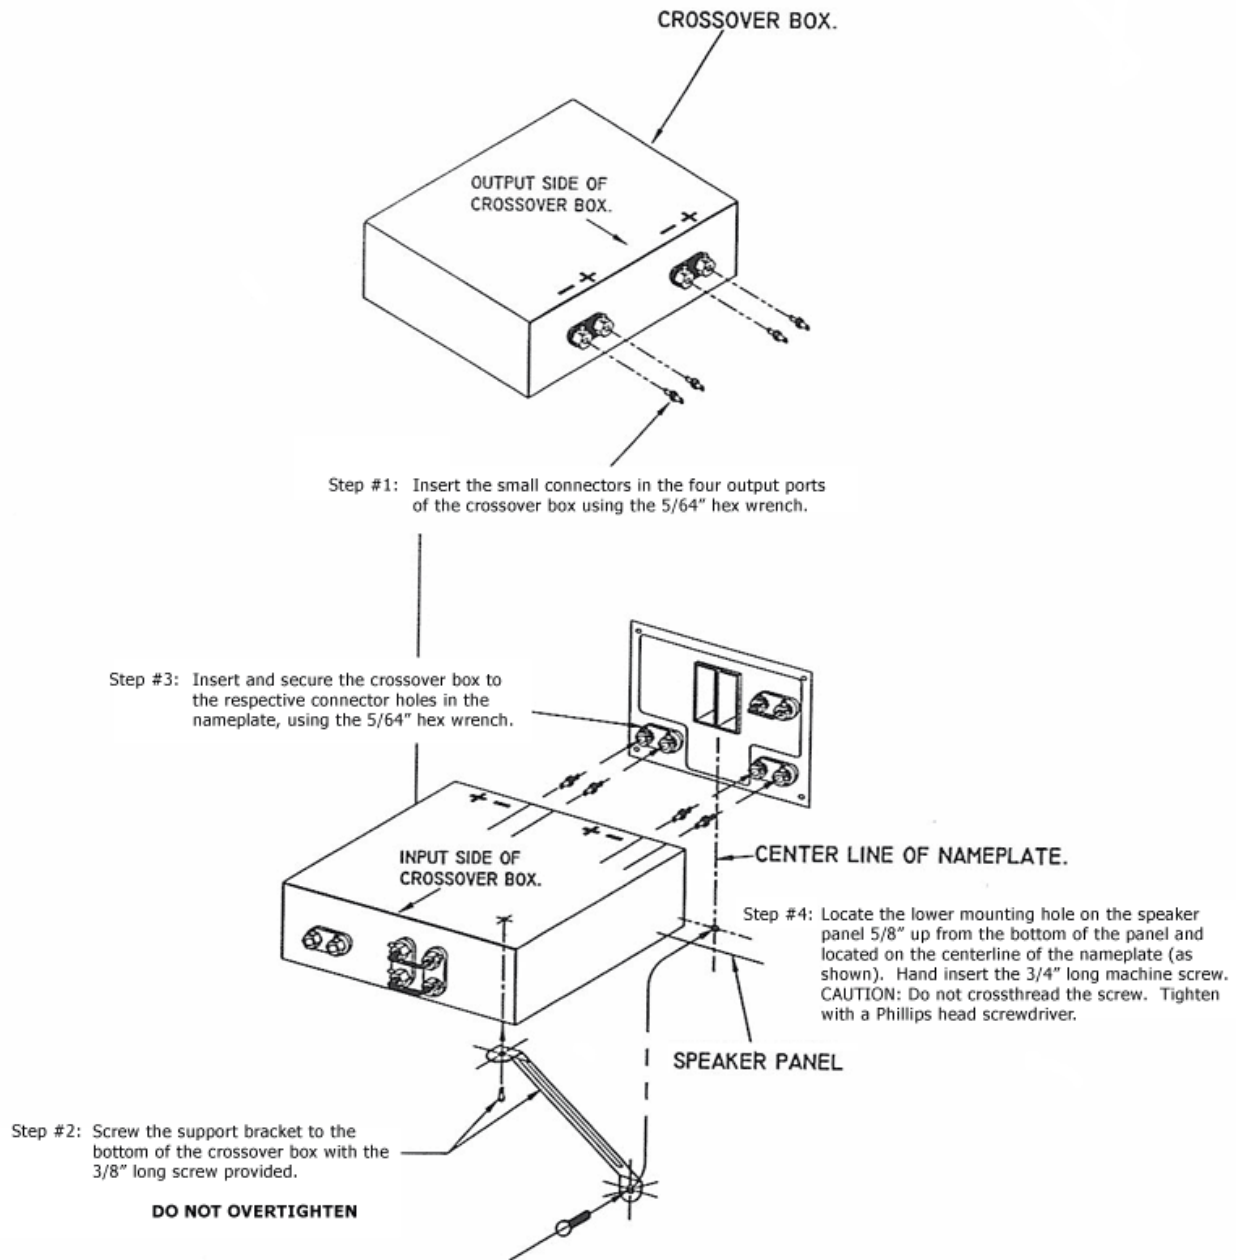
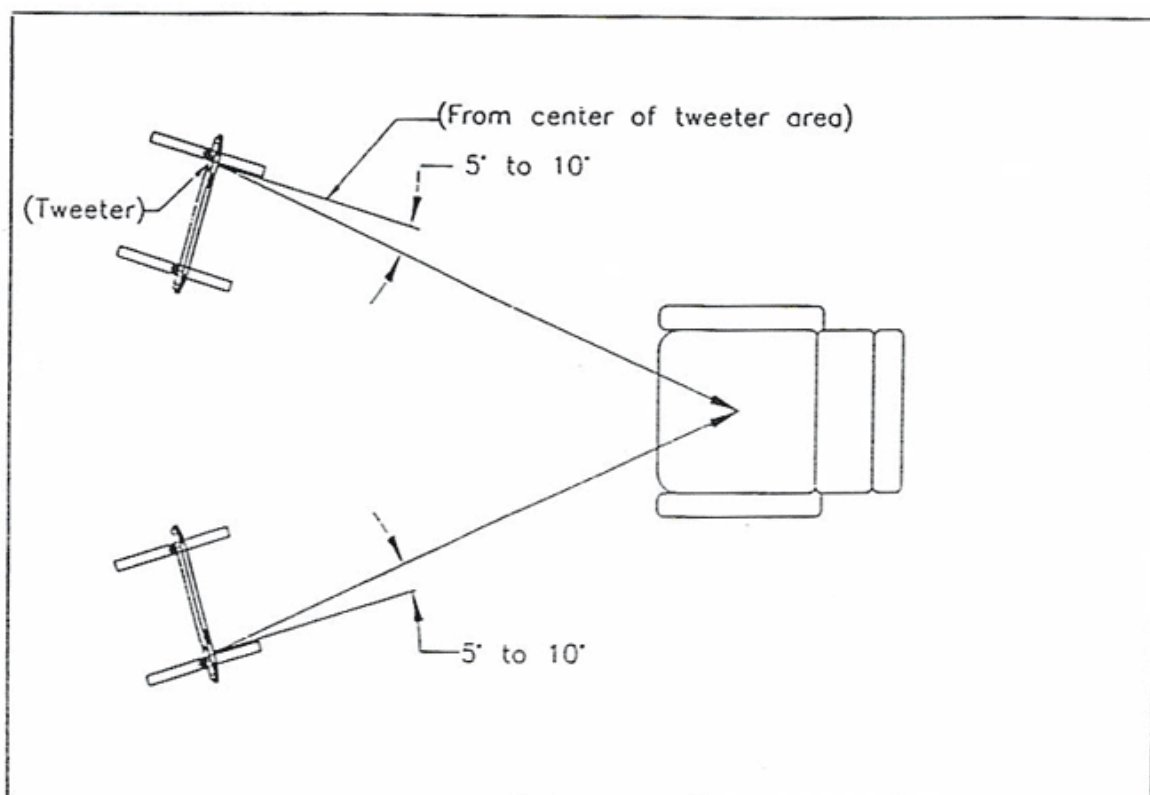
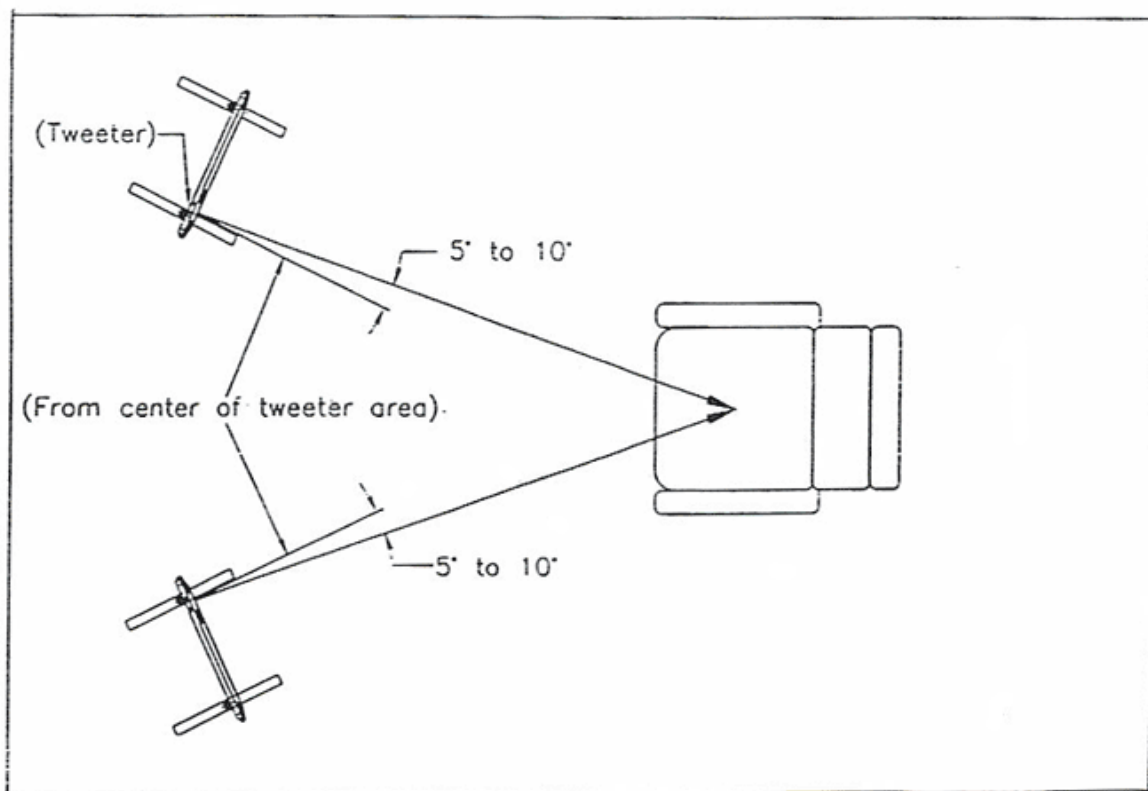

Figure 2
Figure 3
Figure 4
This can be seen to the left of fig.2, as the big peak in the mid-bass. This is a nearfield measurement, which will exaggerate the behavior of the bass panel [see the letters at the end of this reprint—Ed.]. This does not necessarily mean the speaker will “boom” in an out-of-control manner—BD commented that the MG3.6/R’s low frequencies sounded “*powerful, clean, and articulate*” down to about 35Hz in his room—but such *measured* bass behavior does appear to be characteristic of panel speakers. Yet the midrange diaphragm does not have a response peak apparent. It neatly covers the 200Hz to 1.2kHz region, with relatively steep rolloffs above and below that bandpass. From this graph, the ribbon tweeter seems both to be set a little low in level, and comes in rather high in frequency. I imagine that the narrow peaks and dips in its response, are due to local interference effects. They should therefore not have any subjective consequences.
Fig.2 Magneplan MG3.6/R, acoustic crossover on tweeter axis 36" from the floor at 50", corrected for microphone response, with the nearfield woofer and midrange responses each plotted below 300Hz.
The Magnepan's overall response, measured on the ribbon axis 36" from the floor (*ie*, halfway up the ribbon) and averaged across a 30 degrees lateral window is shown in fig.3. The microphone was at a 50" distance, which results in a significant proximity effect with such a physically large speaker. This accounts for much of the downward response tilt evidenced between 200Hz and 2kHz in this graph. The level mismatch between the midrange diaphragm and the ribbon tweeter is still evident, but I wonder how this will manifest itself at a normal listening distance. (Circumstances dictate that I use a 50" microphone distance for my acoustic measurements.) The logistics of the magazine's relocation to New York meant that I could not perform in-room measurements in BD's listening environment, but I suspect that the MG3.6/R's behavior will be better behaved in a room.
Fig.3 Magnepan MG3.6/R, anechoic response on-axis at 50", averaged across 30 degrees horizontal window and corrected for microphone response, with the complex sum of the nearfield woofer and midrange responses plotted below 300Hz.
Magnepan recommend that the speakers be used with the tweeters on the outside edges. There is more treble energy apparent laterally off-axis on the woofer side of the panel (fig.4). Vertically (fig.5), as expected from a speaker that behaves to some extent as a line source, the balance doesn't change over a significant listening-height range.
Fig.4 Magnepan MG3.6/R, lateral response family at 50", from back to front: response 90 degrees-5 degrees off-axis on woofer side, reference response, response 5 degrees-90 degrees off-axis on tweeter side.
Editor: The review of the Magneplanar MG3.6/R in the August *Stereophile* caught my attention. I am a proponent of open-baffle speakers because of their room acoustic advantages and the absence of sound coloring boxes. So I looked with great interest at figs.2 & 3 on page 89 showing individual driver frequency responses and their summation.
The nearfield measurements of woofer and midrange in fig.2, presumably taken only an inch or so from the driver surface, are a valid set of data. You also could have measured the tweeter at such close range and obtained useful information. Where things fall apart is in fig.3 when you form the complex sum of nearfield measurements and the 50" tweeter "farfield" measurement. This curve does not represent the frequency response a listener might experience at any distance and is therefore extremely misleading.
- A. Insert the small connectors in the four output ports of the crossover box, using a 5/64" hex wrench. See Figure 2, Page 4.
The MG3.6 tweeters are mirror-imaged. For proper phasing between the bass, midrange, and tweeter, the bass driver should be closer to the listener than the tweeter (ahead in time). If the tweeters are placed on the outside, the angle of the speaker in relation to the listener should be as shown in Figure 3. If the tweeters are placed on the inside, the speaker angle should be as shown in Figure 4.
Once you have located the best position for the speakers and your chair for good bass performance, separate the tweeters by 50% of the distance from your chair to the speakers. (For example, if your chair is 10 feet from the speakers, move the tweeters 5 feet apart.) Now move the speaker apart in increments of 3 or 4 inches at a time, listening carefully at each position. At some point you will start to hear two separate speakers instead of getting a "stage effect" (or continuous image). If you have a hole-in-the-middle effect, your speakers are too far apart: begin moving the speakers closer together in small increments until you notice a point at which you achieve one cohesive "sound stage." See Figure 3 or 4.